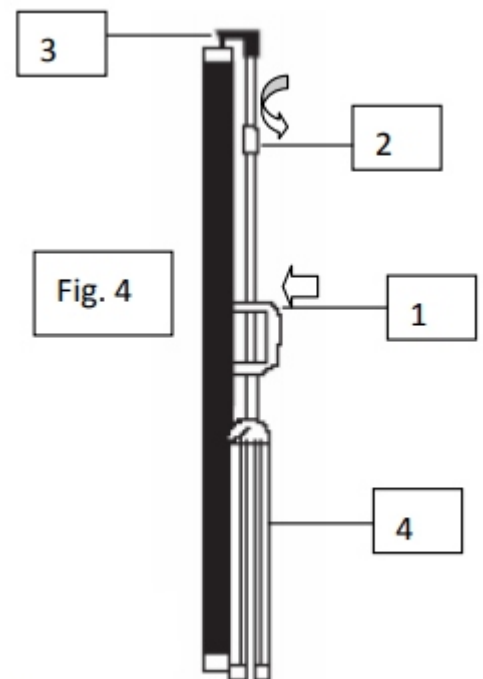

Fig. 4
C. Disassembling the screen: Follow the steps below and Fig. 4.